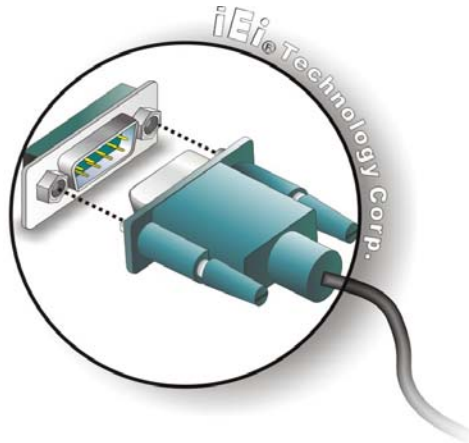

Figure 3-43: RS-422/485 Serial Device Connector
Step 2: Insert the serial connector. Insert the DB-9 connector of a serial device into the DB-9 connector on the external peripheral interface. See **Figure 3-43**